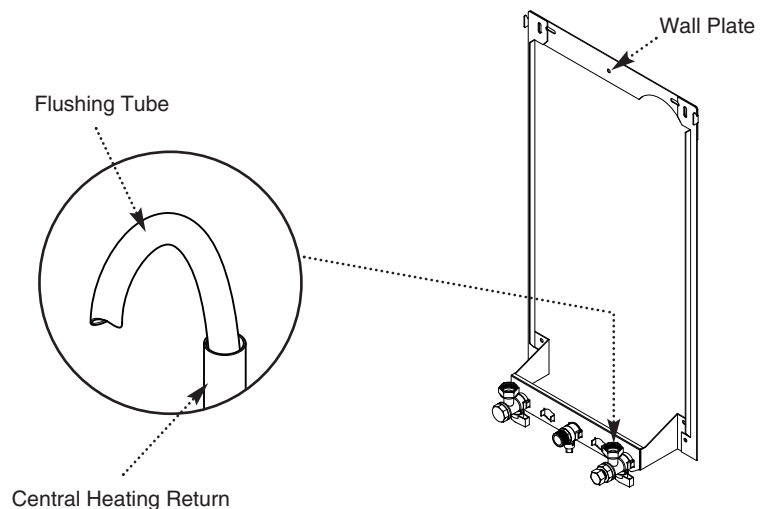

Fig. 13
1. Connect a tube to the central heating flow or return pipe (Fig. 13).